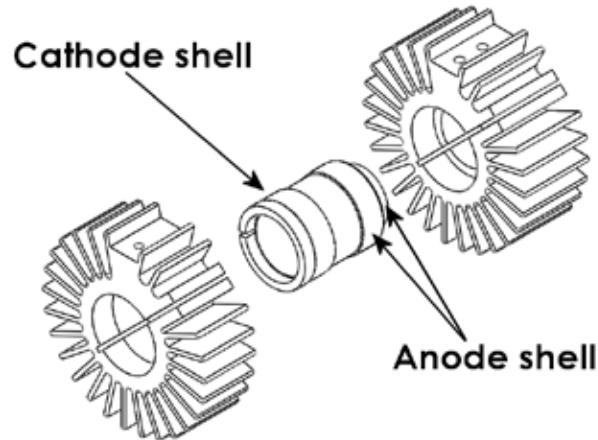
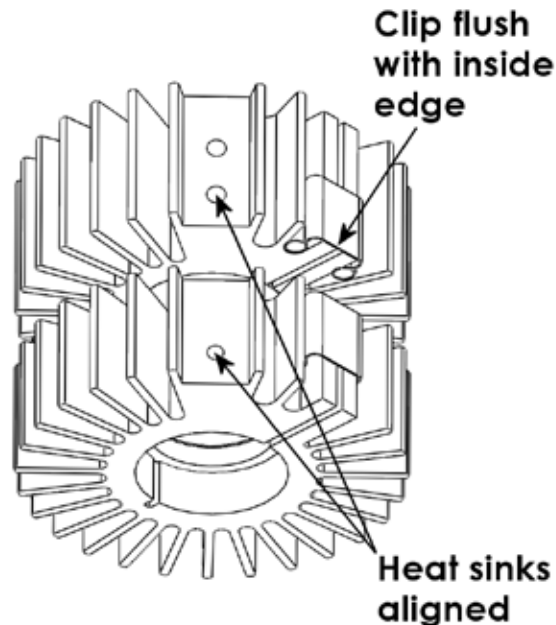

Figure 3-4. Bulb surfaces requiring they be covered with thermal compound.
Figure 3-5. Heat sink alignment and positioning of the retaining clips.
1. Without removing the protective cap from the new bulb, apply a thin, even layer of thermal compound to the side surfaces of the anode shell as shown in Figure 3-4.
3. Remove the protective cap from the new bulb. If there is no mounting ring attached, use the ring from the old bulb. Apply a thin, even layer of thermal compound on the cathode shell on the surface shown in Figure 3-4. Slide on the front heat sink, align it with the rear heat sink (Figure 3-5) and press on the retaining clip positioning it flush with the inside edge of the heat sink.